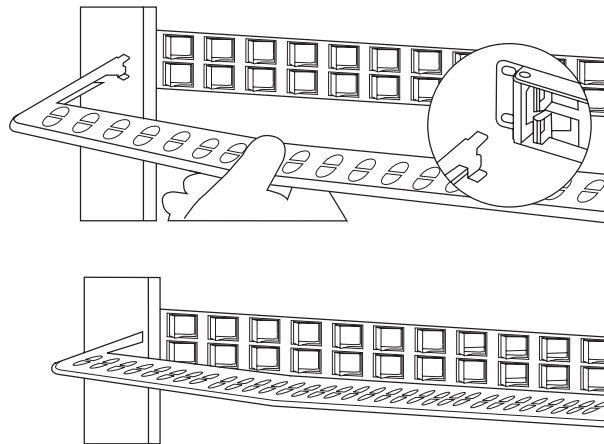

Figure 3. Attaching the rear wire manager.
3. Snap the rear cable bar into the patch panel, as shown in Figure 3.